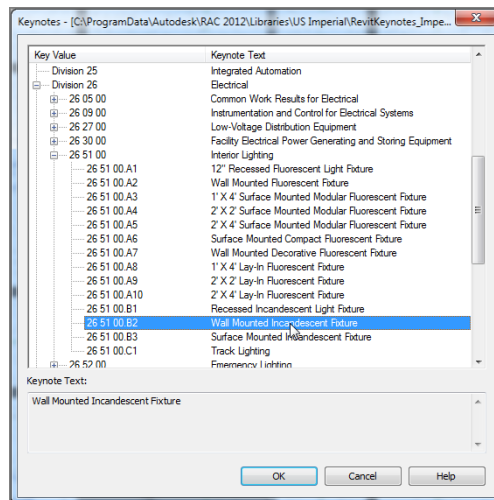

FIGURE 11.91 Selecting the proper keynote value for the sconce
After you pick the third point, Revit displays the Keynotes menu shown in Figure 11.91. Follow these steps to place the keynote value into the sconce family:
3. Go to the group 26 51 00.B2 Wall Mounted Incandescent Fixture, as shown in Figure 11.91.